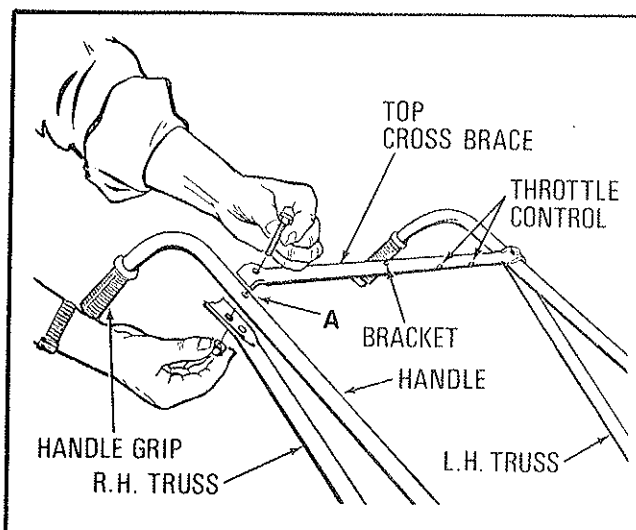

Figure 1. Top Cross Brace
**A.** The next step in assembly is to install the handles. There are two sets of holes in the handle truss. Use the 1/4-20 x 1-1/2 hex head bolts to attach top crossbrace to the handle, See Fig. 1. Install the crossbrace with the throttle control holes to the left side. Place the bolt thru the top hole in handle truss for maximum handle height. (If lower position is more desirable use the second hole from the end of truss). Assemble the crossbrace and truss in the same hole location on each side. **DO NOT TIGHTEN BOLTS.**
**F.** Slide the handle grips onto the handles. See Fig. 1.